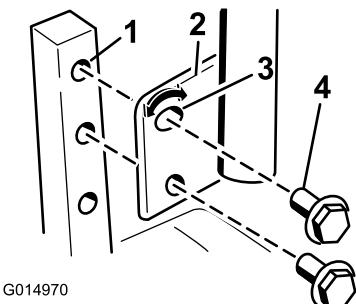

Figure 27
1. Remove the 2 bolts holding the control lever to the control-arm shaft (Figure 27).
3. Secure the lever with the 2 bolts (Figure 27).
2. Loosen the lower bolt just enough to pivot the control lever fore or aft (Figure 27). Tighten both bolts to secure the control in the new position.